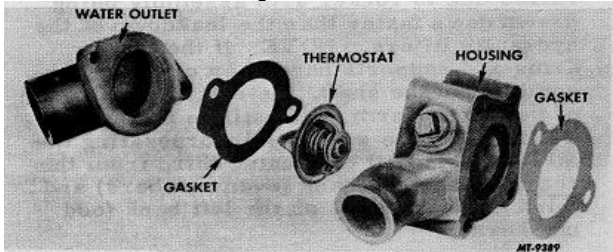

Fig. 158 Exploded View of Thermostat Housing, Thermostat and Engine Water Outlet
35. Position thermostat housing gasket on intake manifold and place thermostat housing on gasket, Fig. 158, and into water bypass hose previously affixed to water pump.
36. Install thermostat in housing and place engine water outlet gasket on housing, Fig. 158. Then place engine water outlet on housing. Secure outlet and thermostat housing to manifold with two bolts and lockwashers and tighten water bypass hose clamps. NOTE: Make sure spark plug cable bracket is installed under water outlet mounting bolt.